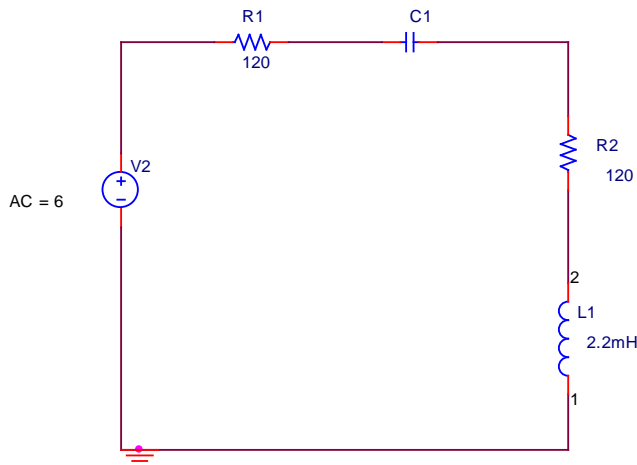

Figure 4 Circuit for Part 3 of Prelab
- Figure 4 may be considered as a circuit having a fixed load connected between terminals a and b, but variable source impedance. The load consists of resistor R2 and inductor L1 while the "source impedance" is changed by varying the capacitor values. Determine the value of the capacitor for which maximum power is transferred to the load when the source voltage is 6 V (peak) and has a frequency of 15 kHz.
- 2.1 Build the circuit of Figure 4. Operate the circuit at a frequency of 15 kHz. Use each of the following values for C: 0.025, 0.047, 0.068, 0.10 and 0.22 microfarads (or whatever is available in the lab). **Make sure that the input voltage remains constant throughout the experiment – adjust it if it does not** (why might the source voltage change?). Make $R_2 = 100 \Omega$ instead of 120Ω (Why? *Hint*: Is the inductor *ideal*?). Using a DMM, measure the current in the circuit. Using the current measurements, plot the power consumed by the load resistor R2 as a function of capacitance. Comment on the results.